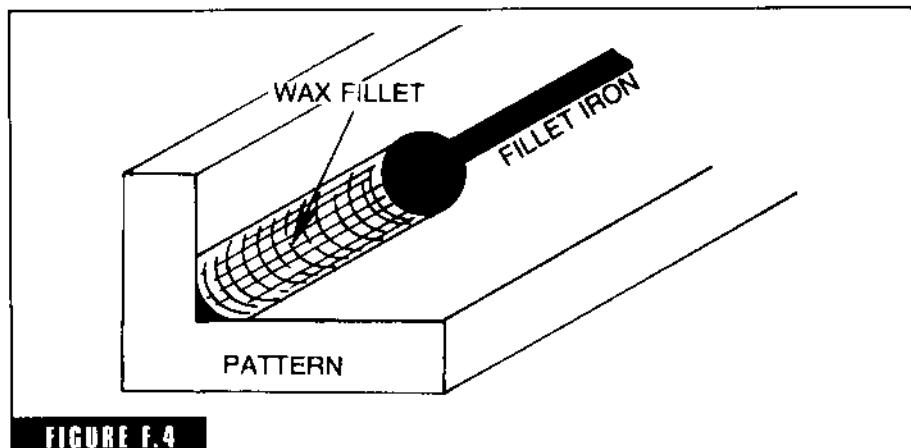

FIGURE F.4
**fillet irons** Steel or brass tools with each end being ball shaped. The ball is used to apply wax fillets to patterns (Fig. F-4). They are